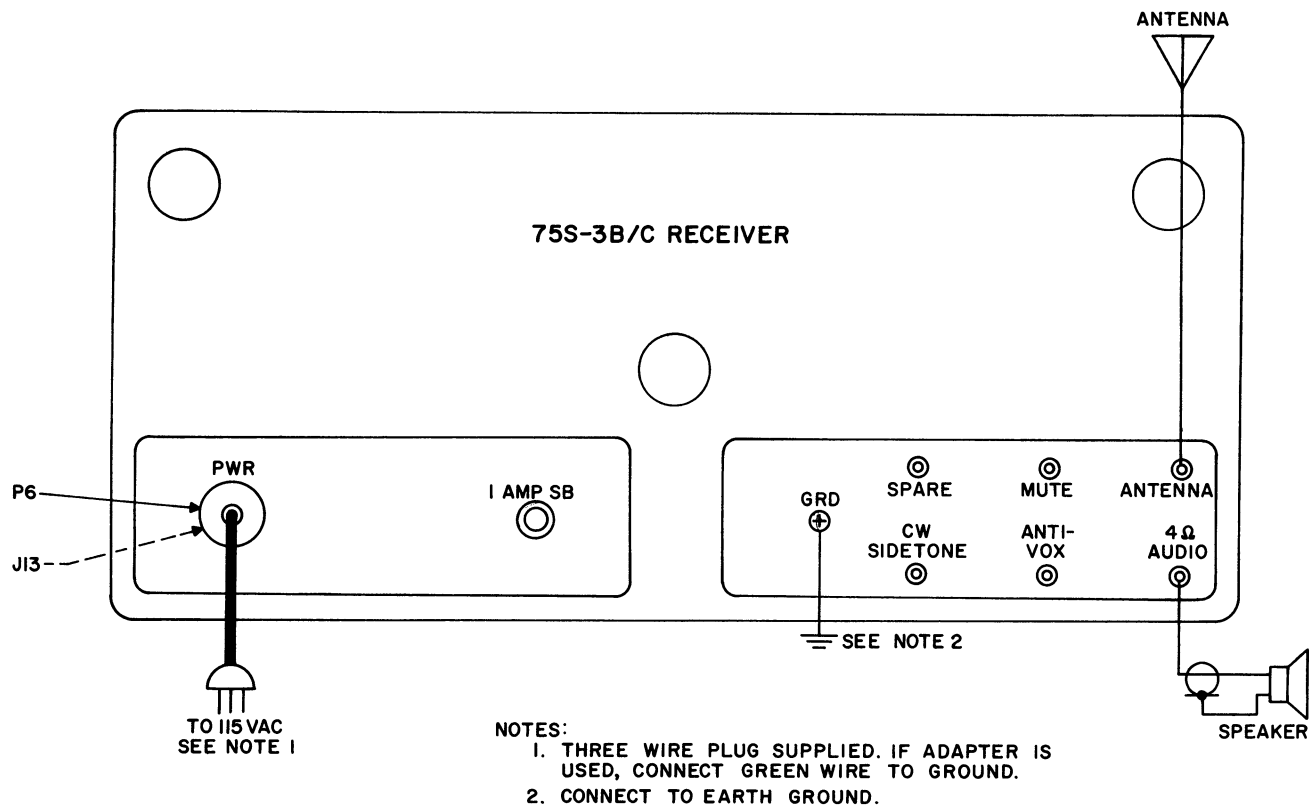

Figure 1-1. External Connections
1.2.1 EXTERNAL CONNECTIONS. Figure 1-1 shows the location of jacks for external connections to the